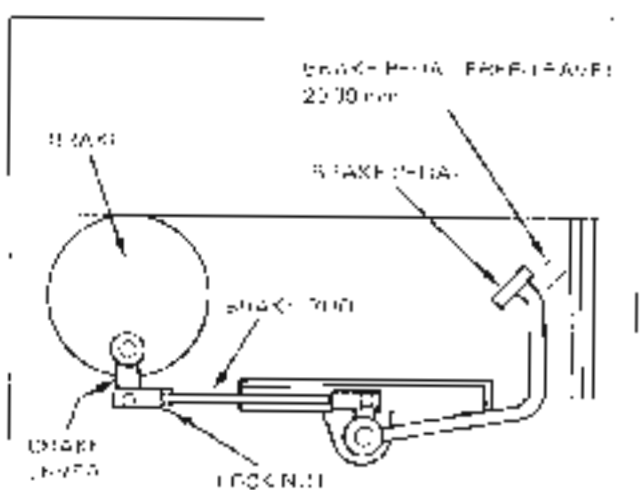

Figure 69 — Brake Pedal Adjustment
2. Loosen the locknut (Figure 69) and rotate the camshaft as necessary until there is 20-30 mm (3/4 to 1 1/4) of pedal free play. Lengthen the camshaft by two layers of shims using the rod between the plus